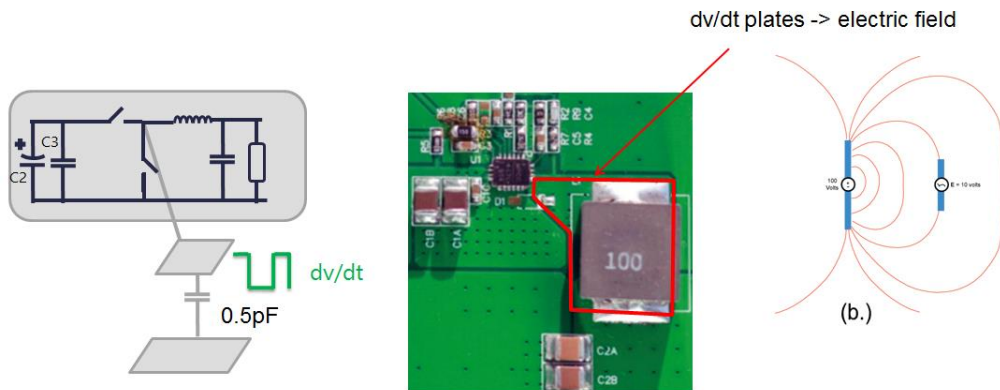

Figure 11: Small SW Pad Layout
- Use a small SW pad layout (see Figure 11).